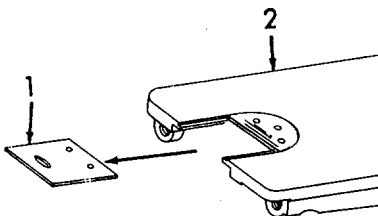

Figure 2-29. Slide Plate, Removal.
g. Installing the Bobbin Case and Bobbin (Refer to Figures 2-29 and 2-30).
- (1) Using your hand, turn the machine pulley toward you until the needle bar travels to its highest point.
- (2) Refer to Figure 2-29. Tilt head back and remove the slide plate (1) from the machine bed (2).
- (5) Release the latch (2), and press the bobbin case (1) into the hook until the latch snaps into the groove near the end of the stud. Be sure the position finger (5) on the bobbin case (1) is in the notch (6) at the top of the hook. About 3-inches (8 cm) of thread should be left hanging down from the bobbin case.
- (6) Refer to Figure 2-29. Install the slide plate (1) and tilt the machine head forward.